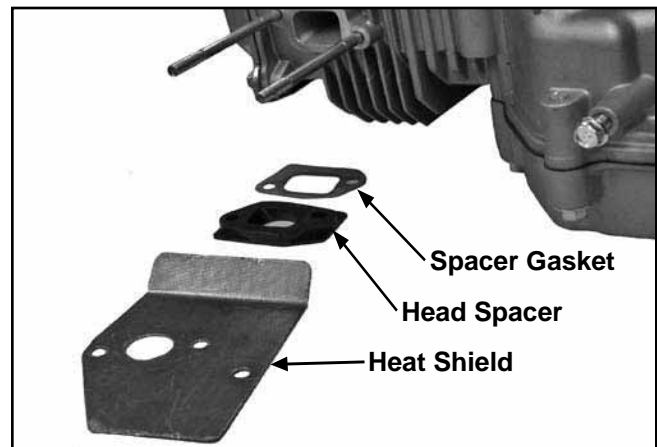

Figure 8-16. Carburetor Gasket Sequence.
4. Slide off the carburetor's heat shield, head spacer, and spacer gasket, noting the sequence. See Figure 8-16.